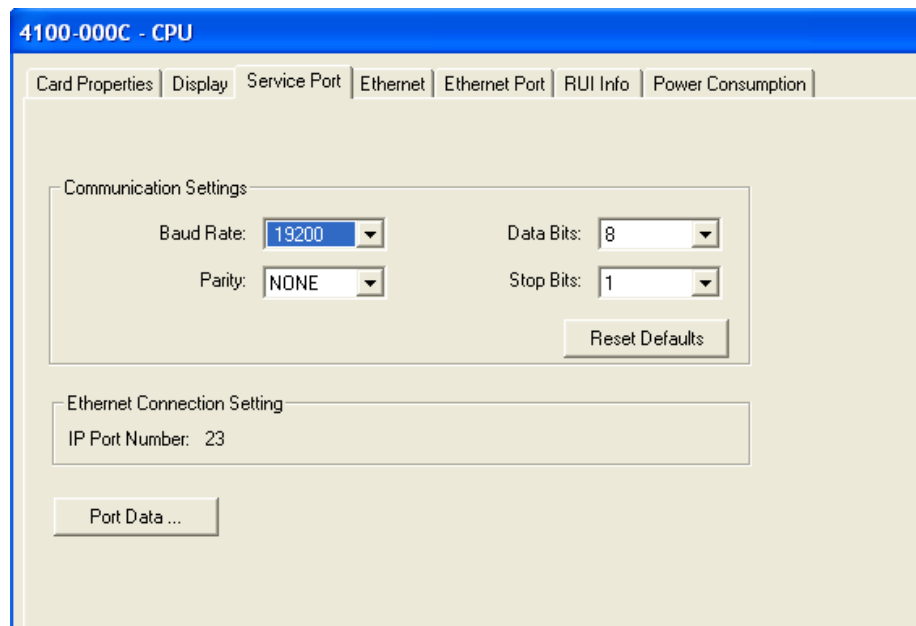
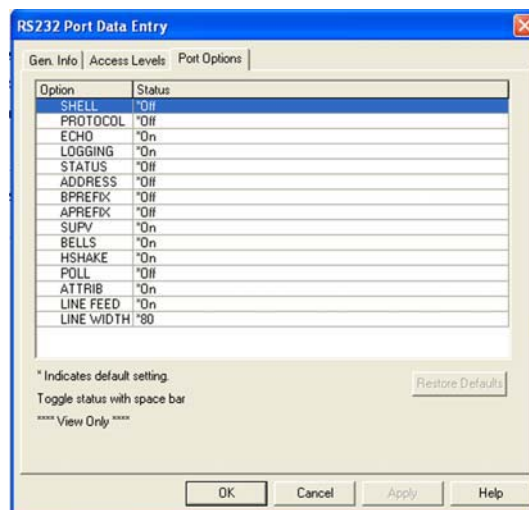

Figure 6-3. Service Port Card Properties Dialog
Figure 6-6. Port Data - Port Options Tab
- To access the Service Port on the CPU card, expand the Unit 0, Box 1, and Bay 1 icons, double click on the CPU Card icon, and select the Service Port tab. A window similar to the one shown in Figure 6-3 appears.
- To access the Service Port on the 4120 Network Card, expand the Unit, Box, and Bay icon combination containing the network card, double click on the network card icon, and select the Service Port tab. A window similar to the one shown in Figure 6-3 appears.
Click on the Port Data button (refer back to Figure 6-3) and select the Gen. Info tab. This tab, shown below, includes the following six fields.
Click on the **Port Data** button (refer back to Figure 6-3) and select the **Access Levels** tab. This tab allows you to set the access level for the various system operations that can be carried out via the service port.
Click on the **Port Data** button (refer back to Figure 6-3) and select the **Port Options** tab. This tab, shown in Figure 6-6, contains options that apply to the way data appears on the display connected to the service port. These are read only fields.